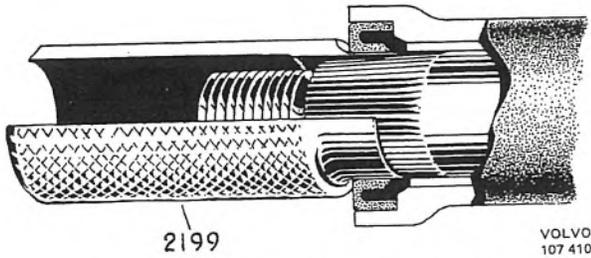

Fig. 6-47. Installing pitman arm shaft
6. Install the protective sleeve 2199 as shown in Fig. 6-47 and fit the pitman arm shaft in the housing. Apply some drops of oil to the adjusting screw in the pitman arm shaft.